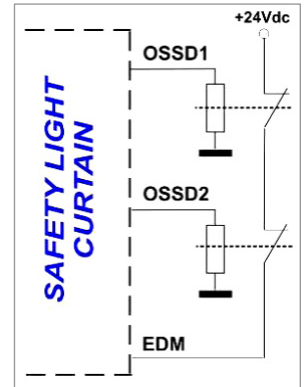

Fig. 30
- Connect EDM input (pin 4 (yellow wire) of receiver M12 8-pole connector) to a 24V DC normally closed contact of the device to be monitored (Fig. 30).